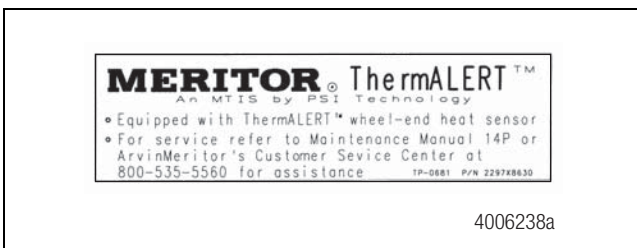

Figure 2.73
3. If equipped with a ThermALERT™ system, install ThermALERT™ decals to each hubcap. Figure 2.73.